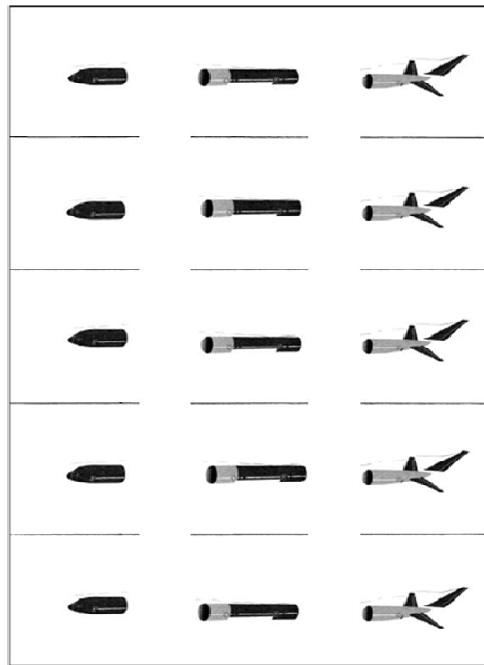

Figure 16.1.2: Boeing 787 fuselage without cutting lines (not to scale, see Worksheet 1)
- Obtain a sheet with five Boeing 787 fuselages, each divided into three sections as in Figure 16.1.2.